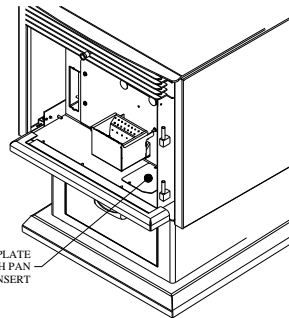

Figure 41
- f. Periodically remove and empty the ash drawer (see Figure 41 & 42). Dispose of ashes properly.